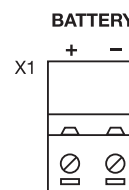

Figure 5
- The unit is equipped with a 12Vdc battery back-up power circuit. If this option is required connect the + and - (positive and negative) battery leads as indicated below (fig 5).